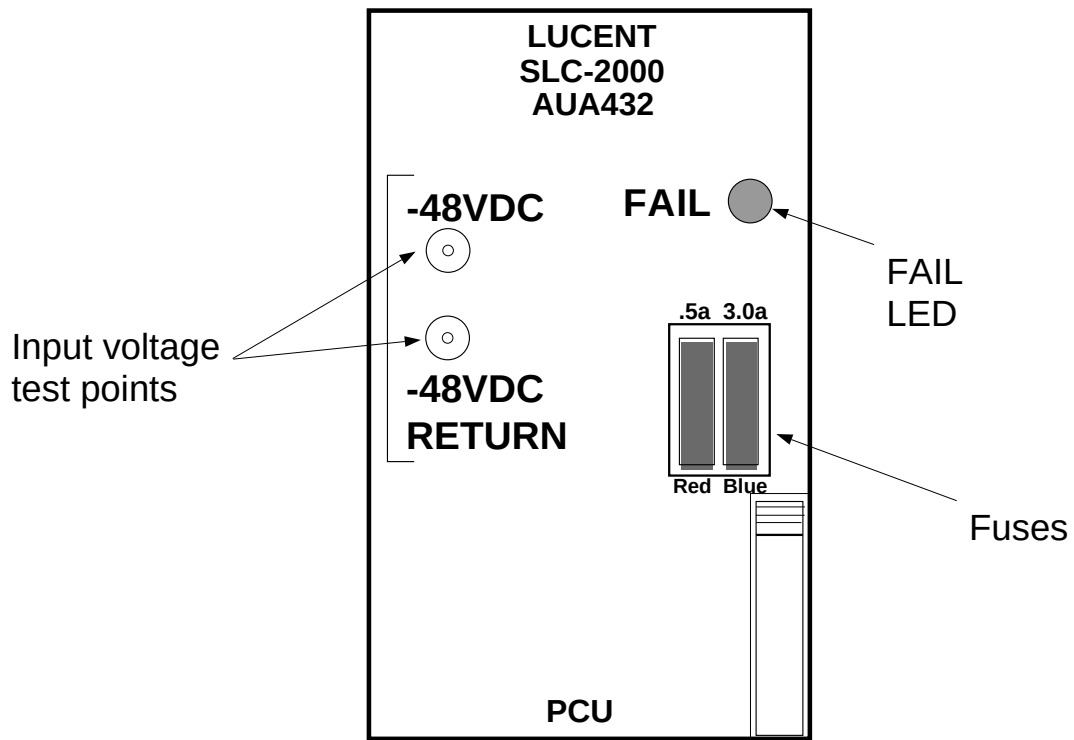

Figure 2 – -48 V DC AUA432 PCU
12. Measure voltage at test points **–48VDC** and **–48VDC RETURN** (Figure 2).